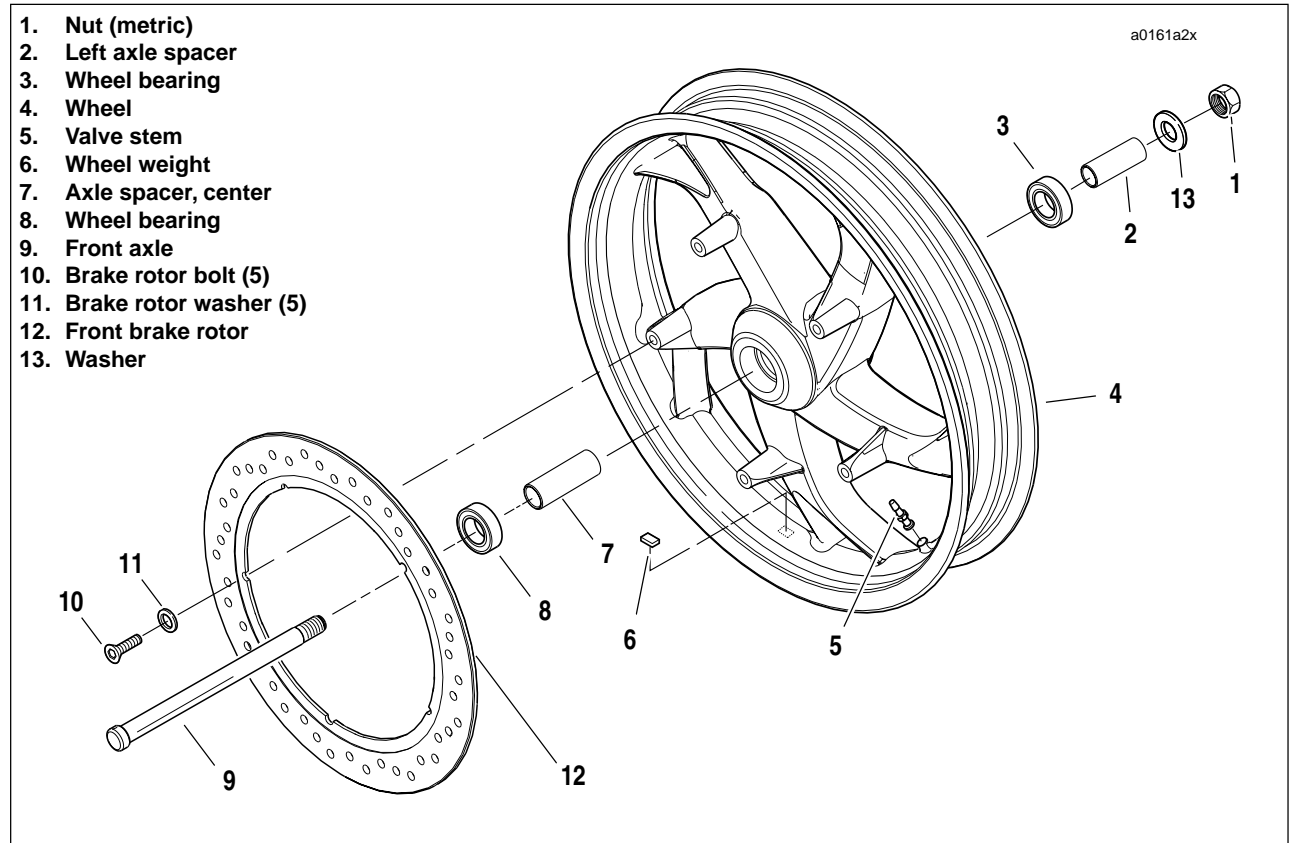

Figure 2-6. Front Wheel Assembly
1. See Figure 2-6. Remove five bolts (10) and washers (11) to detach front brake rotor (12) from wheel hub. Discard washers.
1. See Figure 2-6. Install front brake rotor (12) on right side of wheel.
- b. Apply LOCTITE 272 (red) to threads of each of the five T40 TORX screws (10).
1. See Figure 2-6. Install front axle.
- d. Install axle spacer (2) and washer (13).
3. See Figure 2-6. Install axle nut.
- b. Install axle nut (1) (metric) over threaded end of axle.
- d. While holding axle stationary, tighten axle nut (1) (metric) to 38-42 ft-lbs (52-57 Nm).